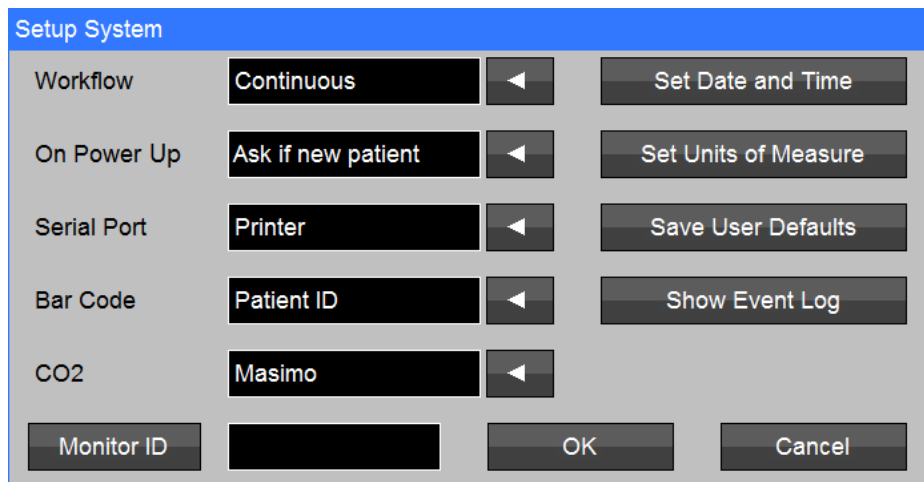

Figure 10: Setup System Menu: **Continuous Monitoring Workflow** mode
- Set **Workflow** selection to **Continuous** (refer to Figure 10 below)